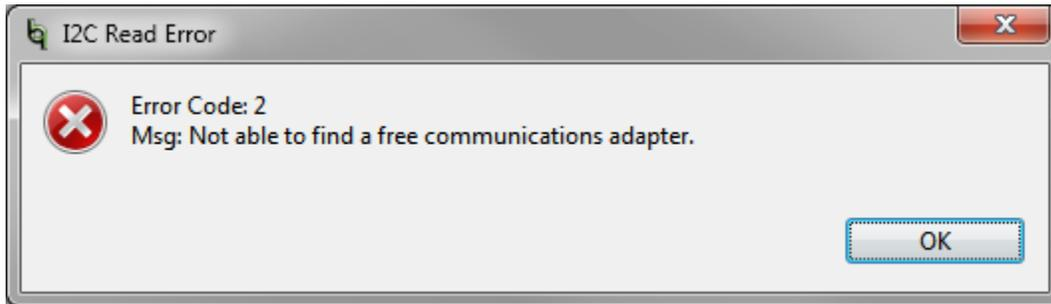

Figure 6. Communications Adapter Error
- If an error pops up stating the communications adapter was not found (Figure 6), click OK to proceed. Next, unplug and re-plug the adapter.